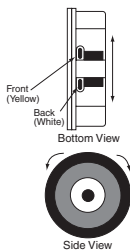

Figure 7
- ① Fully depress both limit switch push buttons, then operate wall switch to make sure system works properly.
- ② Raise shade to desired "up" stop position.
- ③ Set upper limit by depressing and releasing the proper (back) push button (See Fig. 7).
- ④ Lower shade to desired "down" stop position.
- ⑤ Set lower limit by depressing and releasing the proper (front) push button (see Fig. 7).